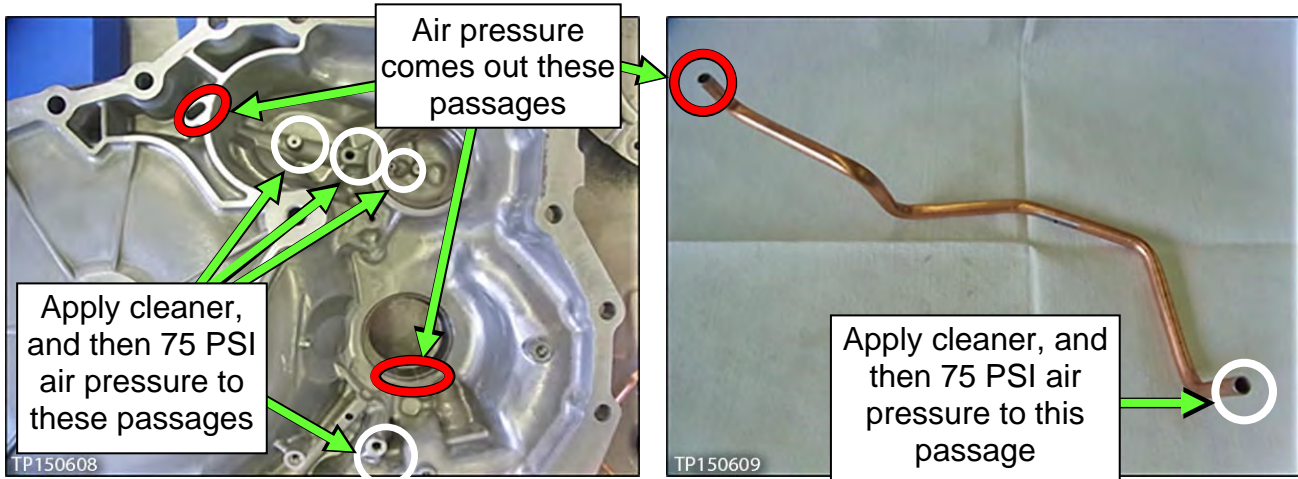

Figure 3H
- Clean the oil passages of the converter housing, lubrication tube and dummy cover with brake cleaner (or equivalent) where shown in Figures 3H and 4H below.